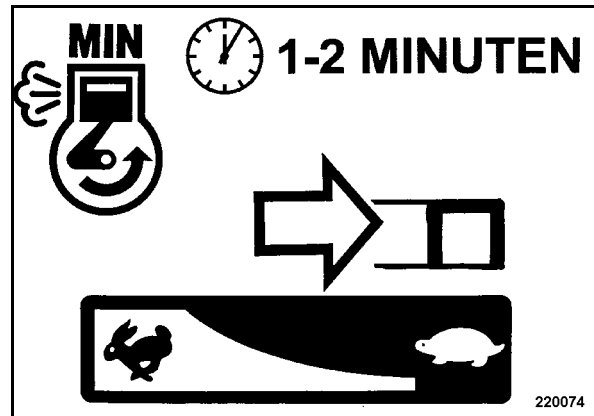

Fig. 22
- Move the throttle lever (Fig. 22) back to idle speed position.